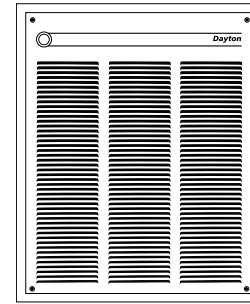

Figure 1
- Power supply must enter back box through the knockouts in the RIGHT side of box (see Figure 1). See also TOP marking on the back box for proper orientation.